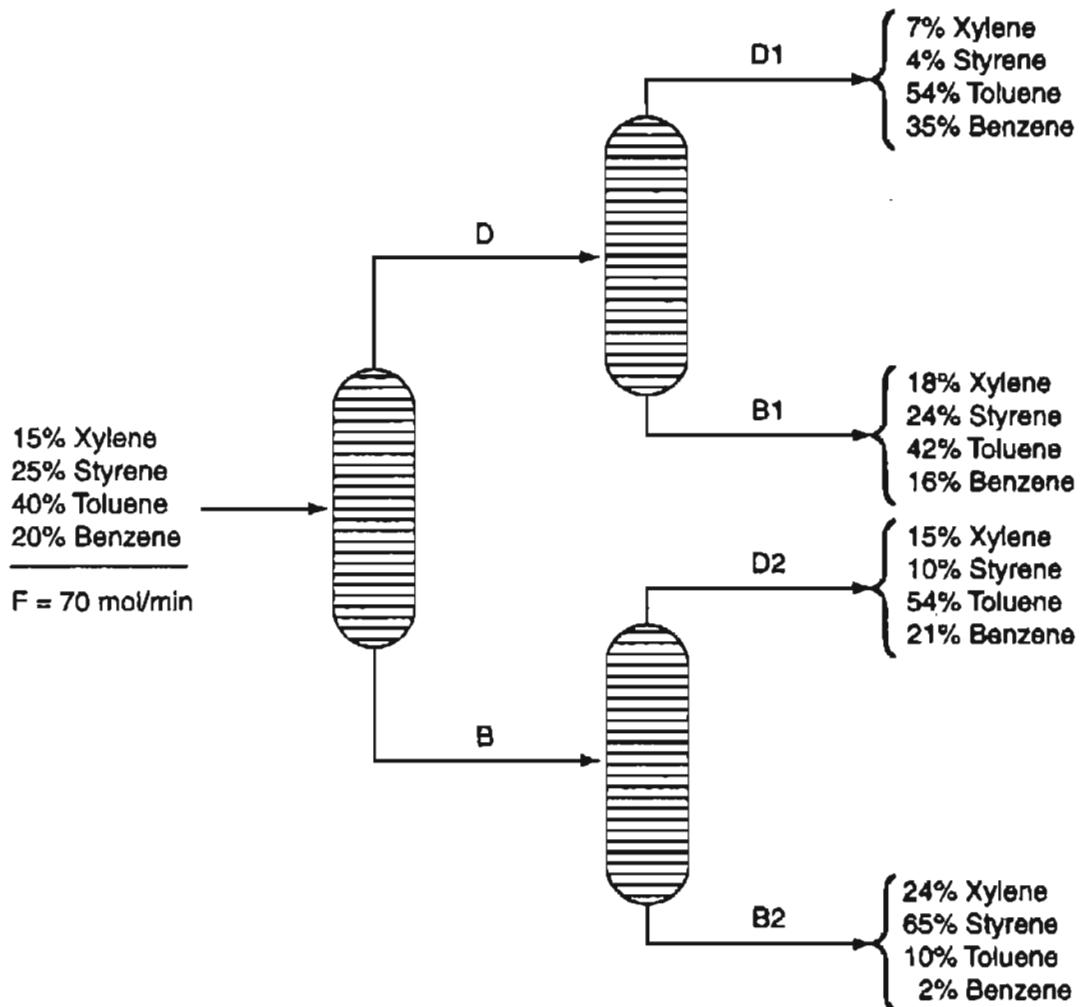

Figure P11.7
- *11.7 Examine Figure P11.7 provided through the courtesy of Professor Mike Cutlip.